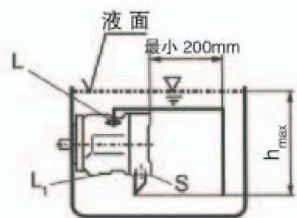

图 3
a) 当油箱的最低液面在泵顶端之上时，把泄油口“L₁”堵住，泄油口“L”、进油口“S”配管参见图 3。
- If the minimum fluid level is above the top of the pump, port "L₁" closed, "L" and "S" should remain open, L piped and recommendation S piped (see Fig. 3)